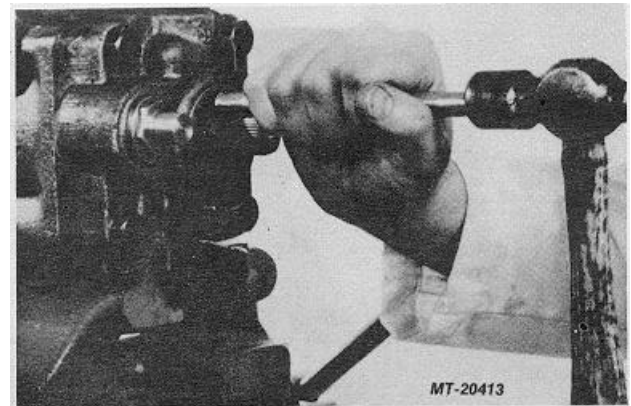

Fig. 47
46. Assemble seal (4) into valve housing (9) and tap into place with hammer and soft punch or use seal driver SE-2675 (Fig. 47).